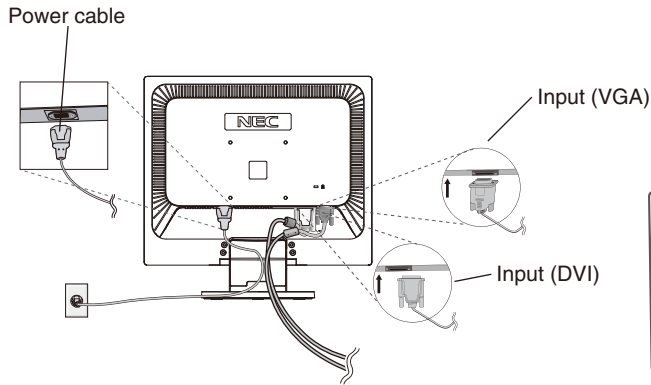

Figure B.1
3. Connect the 15-pin mini D-SUB of the video signal cable to the appropriate connector on the back of the monitor (**Figure B.1**).